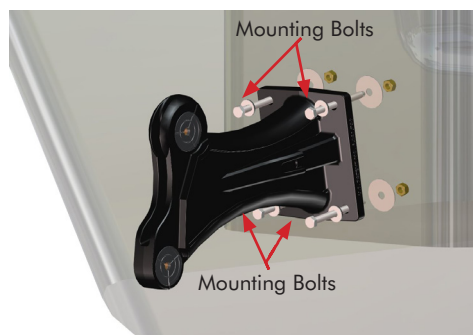

Figure 5
STEP 6 Remove the four **Mounting Bolts** using a **9/16" socket & wrench**. Remove the defective Stern Bracket. **FIG 5**